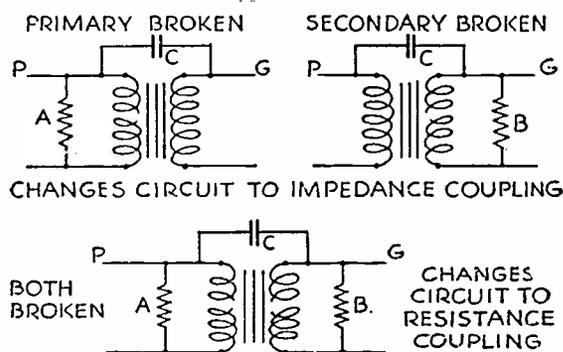

FIG. 62
A Simple Transformer Repair: If one or both windings of an audio transformer have gone bad, a temporary repair can be made by following the connections indicated in Fig. 62. If on test (see Chapter 4), the primary circuit proves to be open, connect a 100,000-ohm resistor (A) across